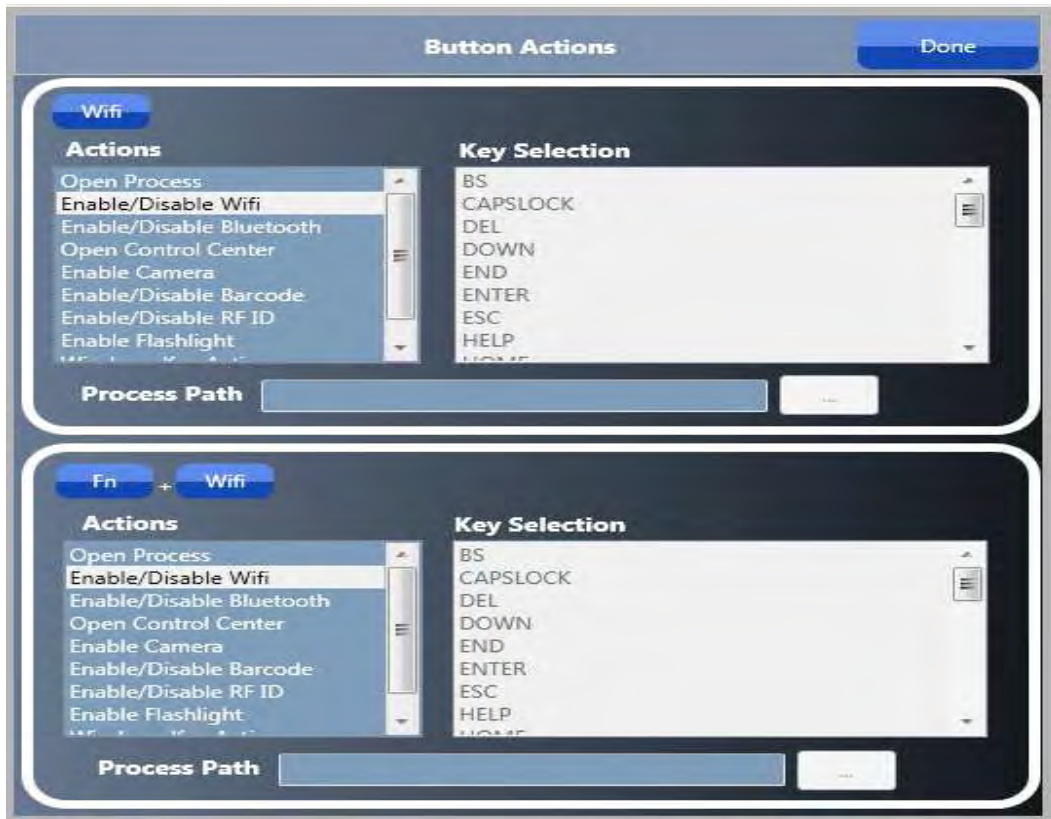

Figure 5-7: Button Actions - Wifi
Step 2: Take Wifi as an example. Click the wifi button. The button configuration window appears (**Figure 5-7**). The button configuration window has two sections.